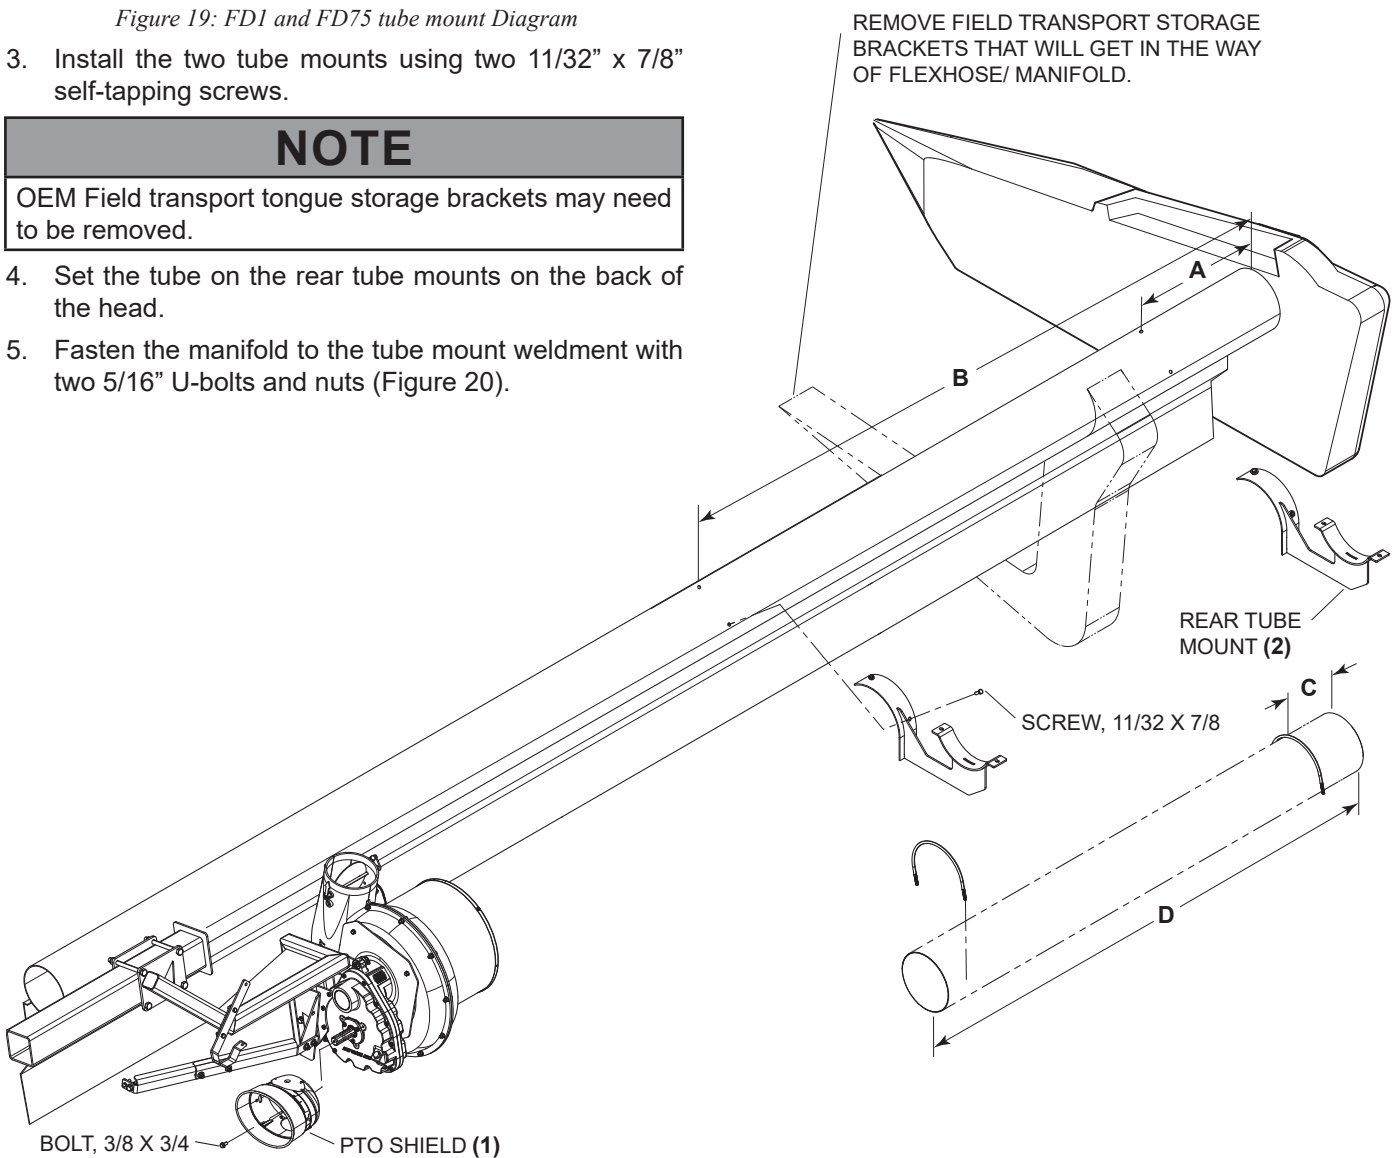

Figure 20: Right hand drive kit assembly
- Fasten the manifold to the tube mount weldment with two 5/16" U-bolts and nuts (Figure 20).